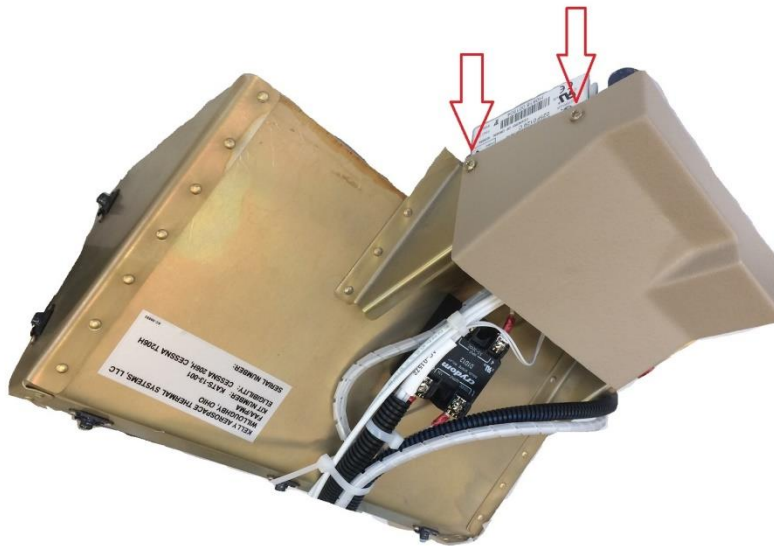

Figure 7 - Attach Forward End Over Bracket
- F. Remove the two screws and washers on the forward end of the Controller and slide the Cover into place, over the bracket, lining up the holes and re-attach the screws and washers. See Figure 7.